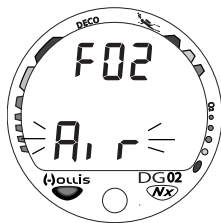

Fig. 18 - Set Mode Entry
- Upon entry into Set Mode, the Set F02 screen will be displayed with the Set Point flashing (Fig. 18) .